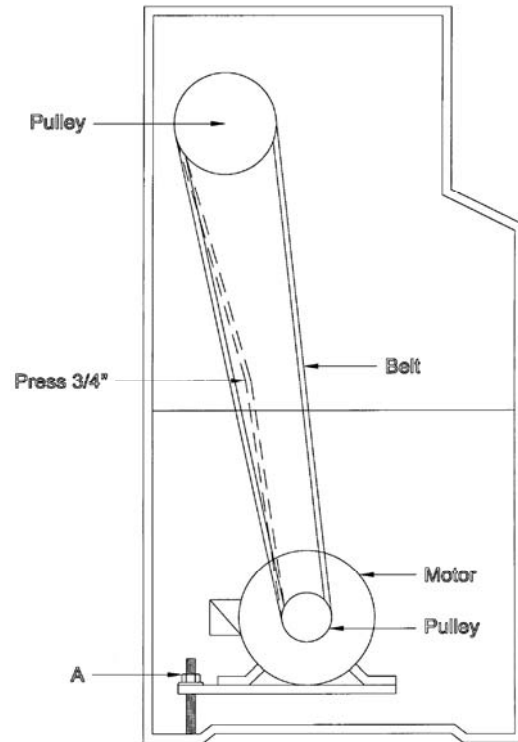

Figure 27
3. Take tension off old belts by loosening motor mount hex nut (A, Fig. 27).